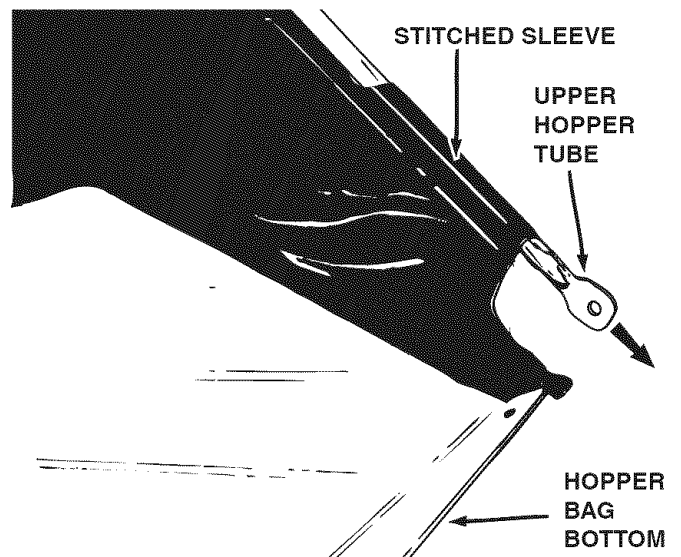

FIGURE 10
- Insert the ends of the assembled upper hopper tubes down through the stitched sleeves in the sides of the hopper bag and then slide the tubes back underneath the wind screen. See figure 10.